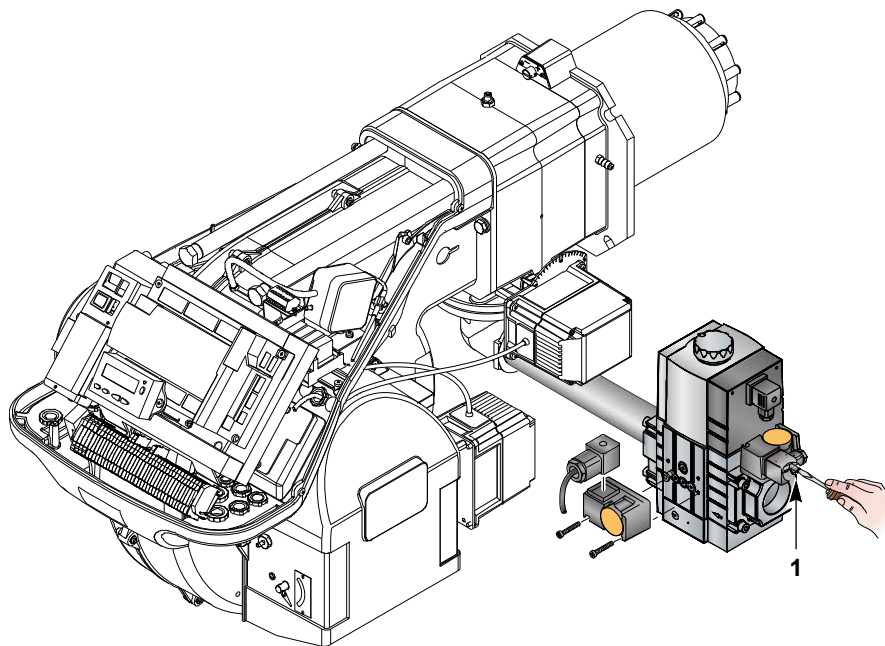

Fig. 25
- Check the gas supply pressure by connecting a pressure gauge to the pressure test point 1)(Fig. 25) of the minimum gas pressure switch: it must be lower than the maximum allowed pressure of the gas train, as shown on the characteristics label.